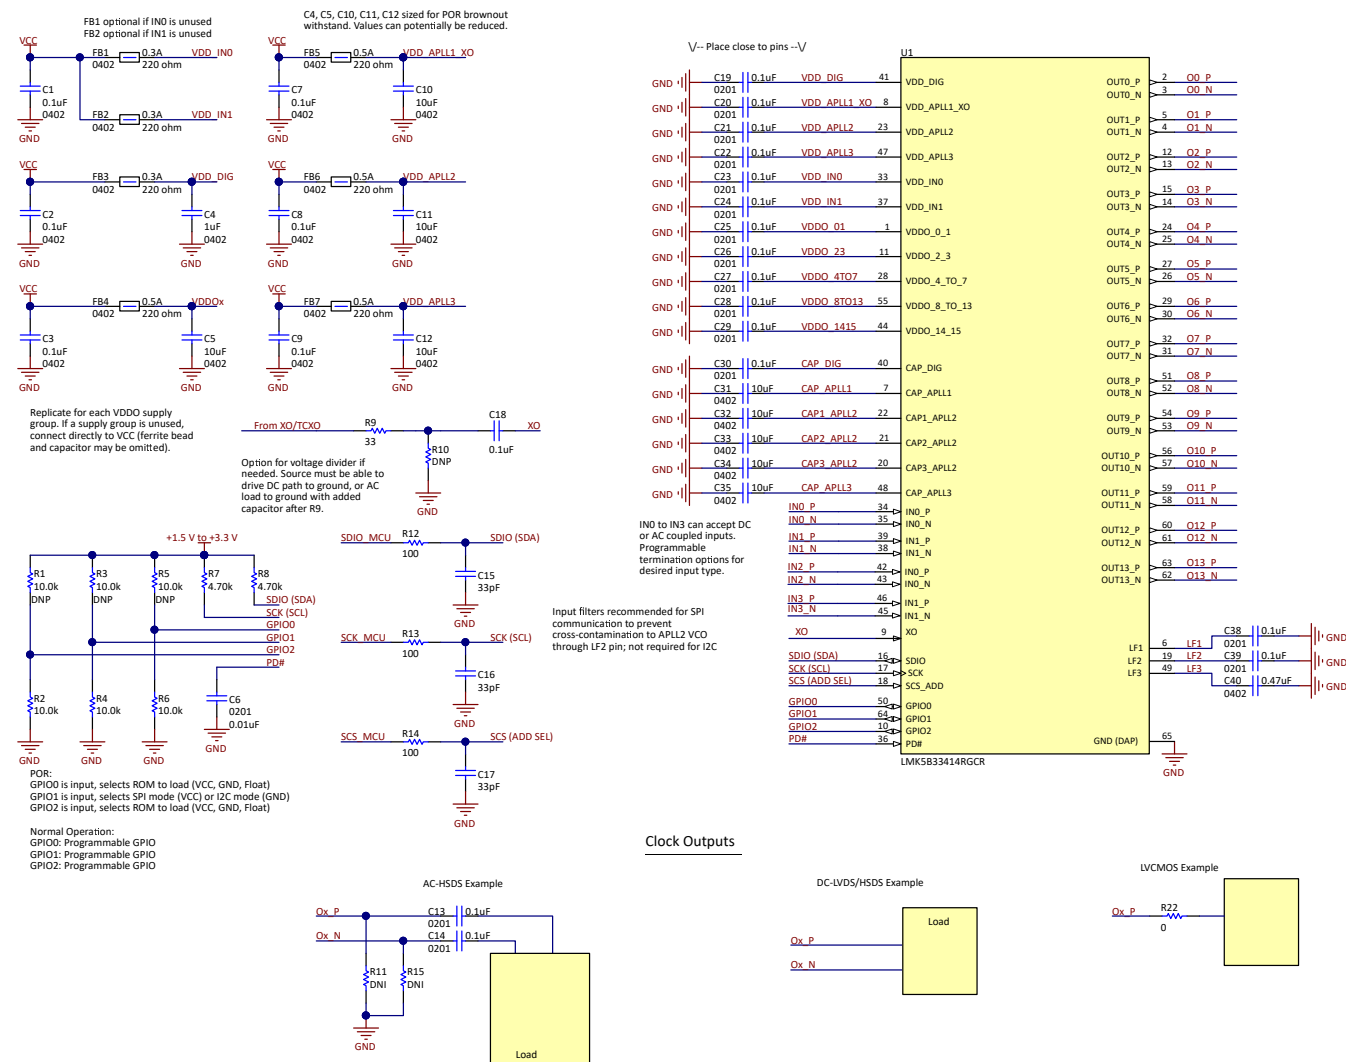

Figure 9-3. Reference Schematic Example
Figure 9-3 shows a reference schematic to help implement the LMK5B33414 and its peripheral circuitry. Power filtering examples are given for the core supply pins and independent output supply pins. Single-ended LVCMOS, LVDS, HSDS, LVPECL, and HCSL clock interfacing examples are shown for the clock input and output pins. An external CMOS oscillator drives an AC-coupled voltage divider network as an example to interface the 3.3-V LVCMOS output to meet the input voltage swing specified for the XO input. The XO pin of the LMK5B33414 can accept 3.3-V LVCMOS input. The required external capacitors are placed close to the LMK5B33414 and are shown with the suggested values. External pullup and pulldown resistor options at the logic I/O pins set the default input states. The I2C or SPI pins and other logic I/O pins can be connected to a host device (not shown) to program and control the LMK5B33414 and monitor its status.
- **Reference inputs:** Follow the LVCMOS or differential clock input interface examples in Figure 9-3 or Section 8.3.3.
- **Clock output Interfacing:** Follow the single-ended or differential clock output interface examples in Figure 9-3 or Clock Output Interfacing and Termination.